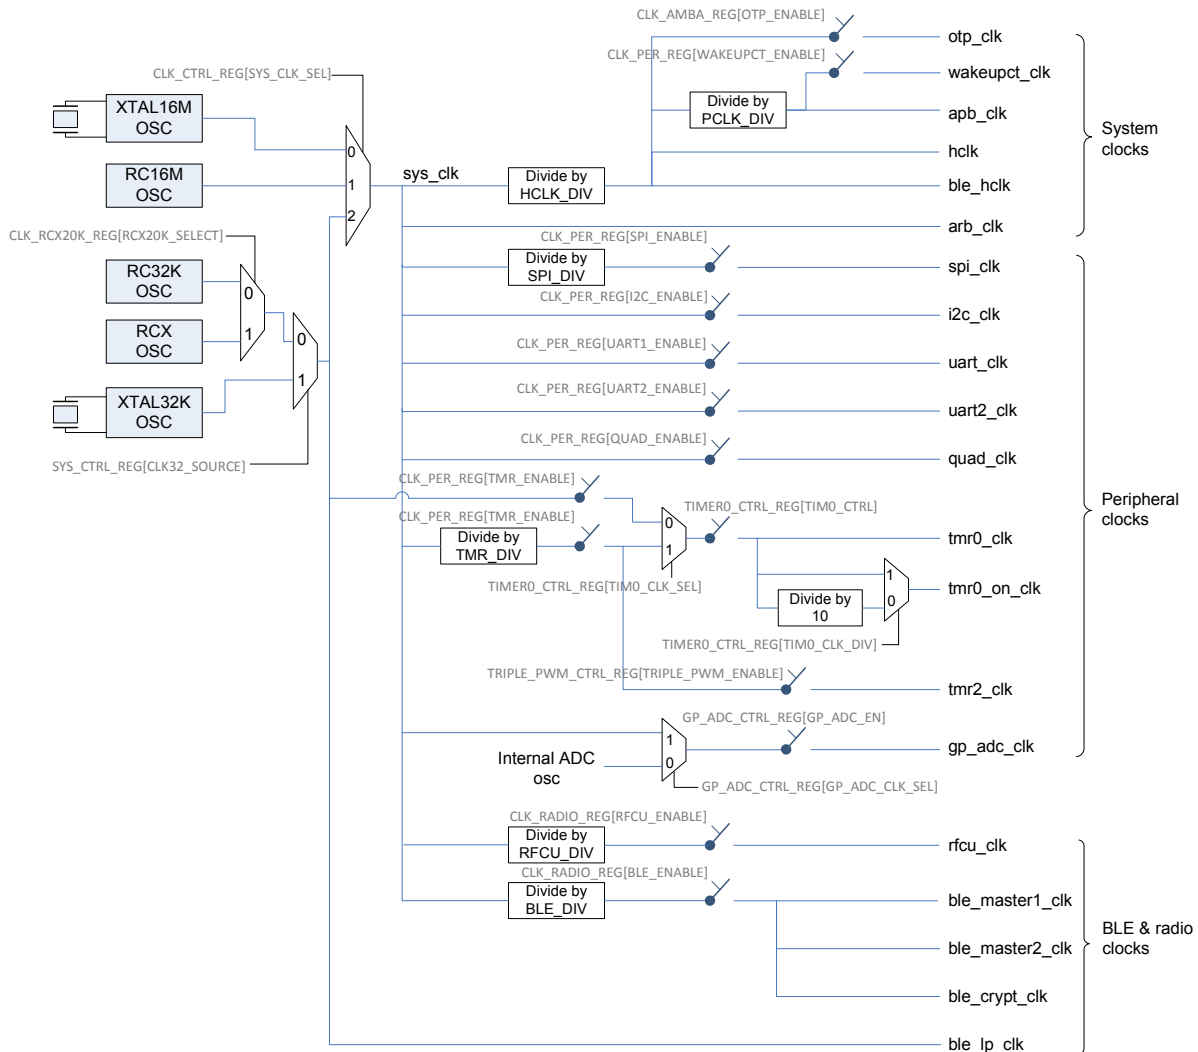

Figure 15: Clock Generation Block Diagram
The clock names depicted in Figure 15 are explained in the following table:
- When the SPI block is set to Slave mode, then the spi_clk (as depicted in Figure 15) should be at least 4x the clock frequency provided by the external SPI Master. This is required for proper sampling of the data line.